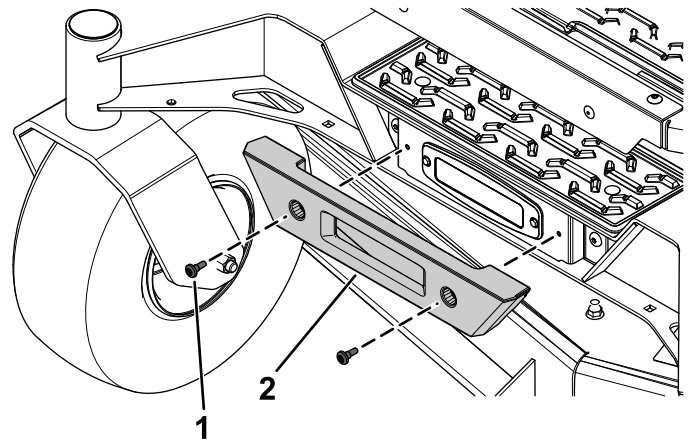

Figure 3
2. Secure the front bumper using the previously removed 2 torx-head screws (Figure 3).